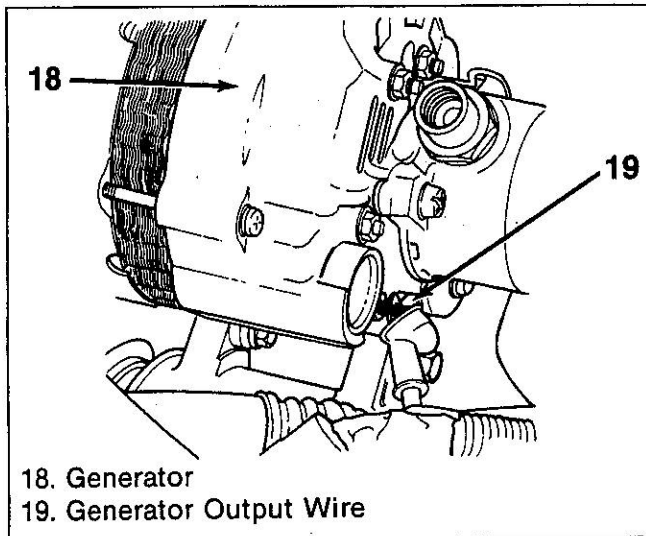

Figure 7. Wiring at Generator
19. Generator output wire (19) from the generator (18) (figure 7).
16. Generator output wire (19) to the generator (18) (figure 7).